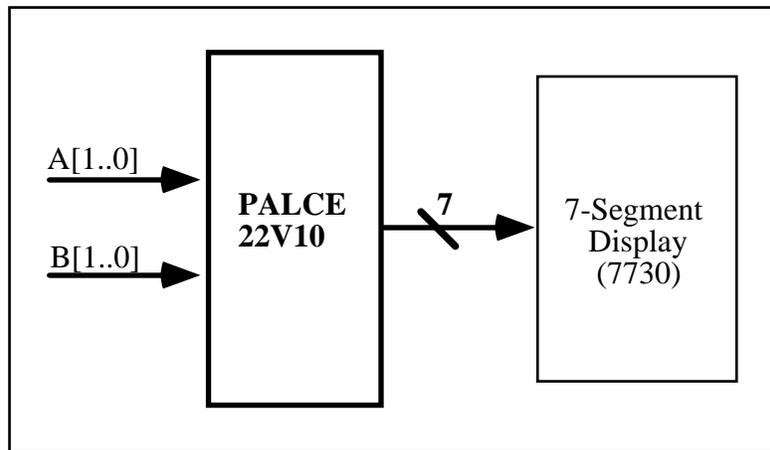

Figure 2: Part II Block Diagram
- a) In this part of the lab, you will implement your 2-bit adder using a Programmable Array Logic (PAL) device. The entire combinational network designed in Part I can fit onto a single PAL chip, as shown in Figure 2. (Note that in this part you do not need to include the carry-in bit,  $C_0$ , although you can include it if you choose. Since 5-variable Karnaugh maps are difficult to work with, we have reduced the number of input variables to 4.)